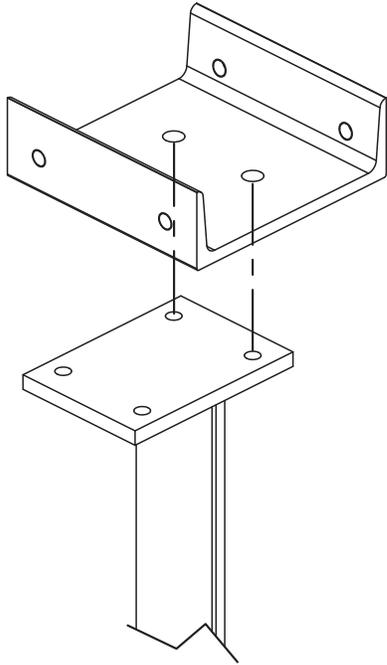
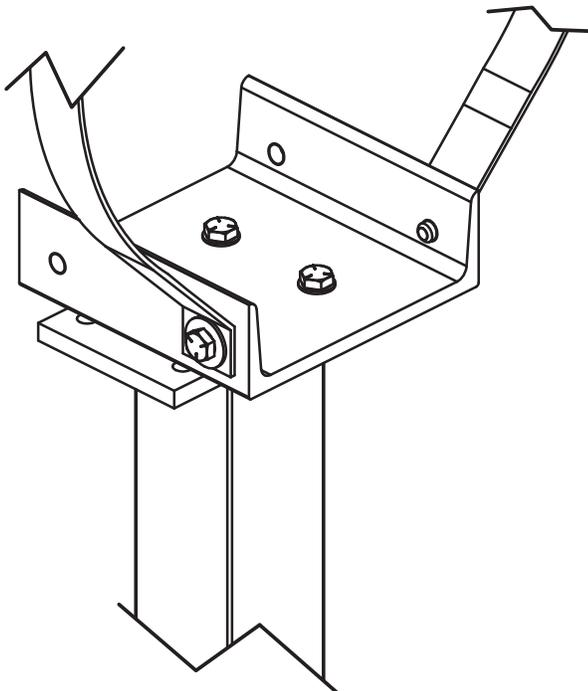

Fig. 4: Mount the Tank Support Channels
Fig. 5: Mounting the Tank Strap
- Place one tank support channel on the top of each leg and secure in place with two 3/8-16 X 1-1/2 screws with 3/8 lock washers as shown in Fig 4 and Fig. 5.
- Attach each end of the tank strap to the two outermost mounting holes of the tank support channel using one 3/8-16 X 5/8 screw with 3/8 flat washer, then tighten in place as shown in Fig. 5. Repeat on the other leg.